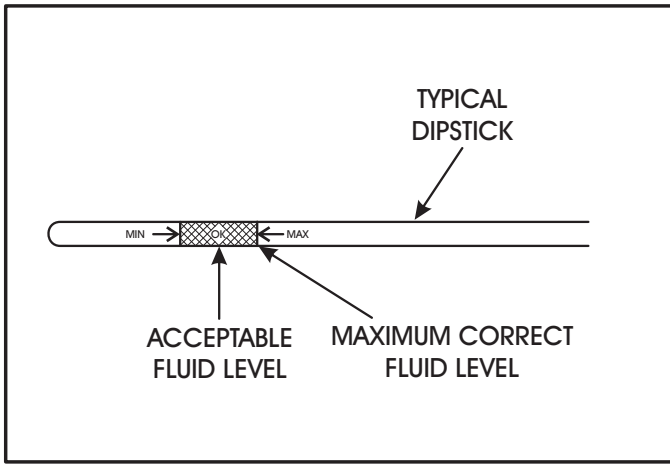

Figure 26
- (1) Transmission fluid level must be checked before performing the pressure tests and must be at normal operating temperature for accurate check. Drive vehicle if necessary to bring fluid temperature up to normal operating temperature of 82°C (180°F).
- (2) Position vehicle on flat level surface.
- (3) Start and run engine at curb idle speed.
- (4) Apply Parking Brakes.
- (5) Shift transmission through all gear ranges and then back to the Neutral position.
- (6) Remove dipstick and check fluid level.
- (A) Correct level is in crosshatch area.
- (B) Correct maximum level is to MAX arrow.
- (C) Incorrect level is at or below MIN line.
- (7) If fluid level is low, add only enough of the Mopar® ATF Plus 3 or 4, Type 7176 to restore correct fluid level. Do not overfill (See Figure 26).